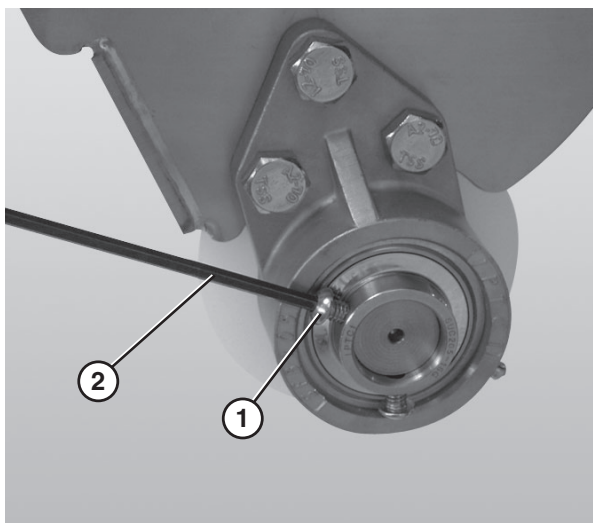

Figure 70
6. Loosen the 3 hole flange (**Figure 70, item 1**) with bearing fasteners using a hex wrench (**Figure 70, item 2**).